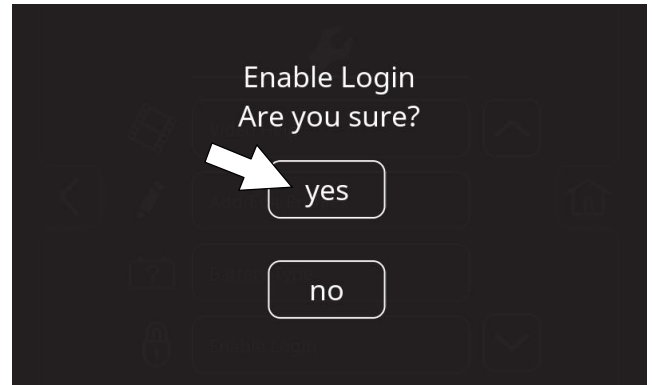

FIG. 162
5. Press the yes button to enable login (Figure 162).